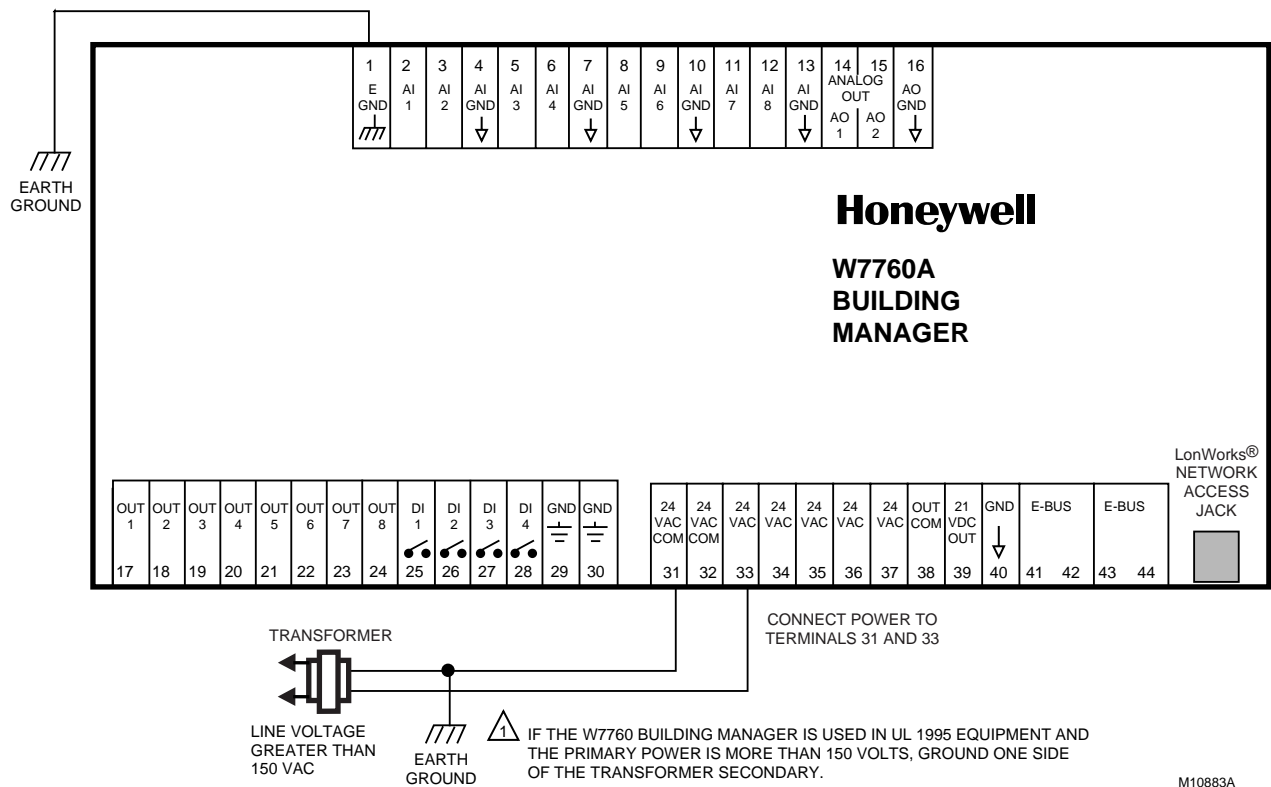

Fig. 22. Transformer power wiring details for one W7760A used in UL 1995 equipment (U.S. only).
*If the W7760A is used on **Heating and Cooling Equipment (UL 1995, U.S. only)** and the transformer primary power is more than 150 volts, connect the transformer secondary to earth ground, see Fig. 22. For these applications, only one W7760A Controller can be powered by each transformer.*